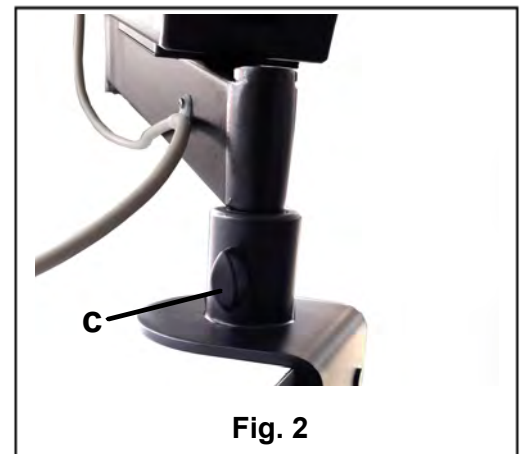

Fig. 2
4. Tighten the clamping knob shown as **(c)** referring Fig. 2.